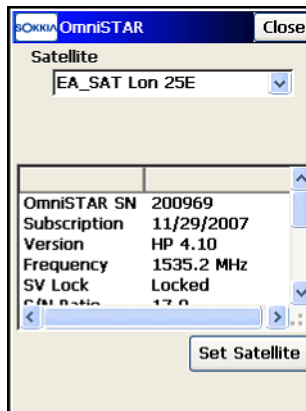

Figure 8-21. OmniSTAR HP Status
2. Tap **Status** to view the status of the link to the OmniSTAR satellite selected (Figure 8-21).